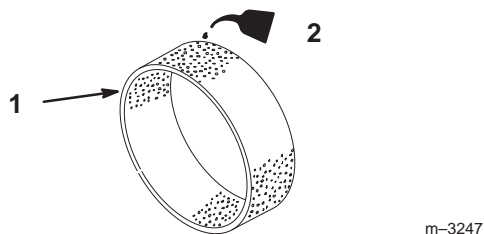

Figure 20
4. Put one or two ounces of oil on the element (Fig. 20).